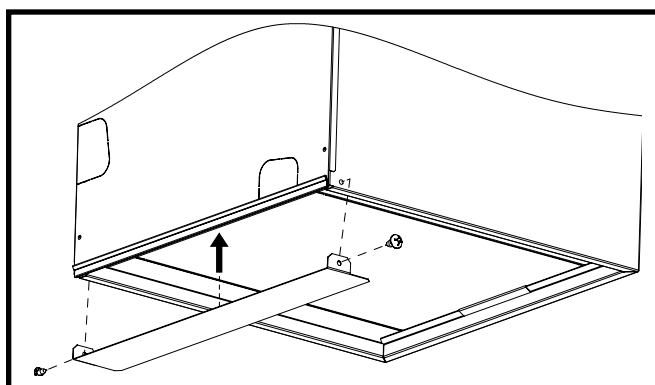

Figure 19. Close-Off Plate
2. Install the close-off plate on the bottom of the of the coil box. See Figure 19.